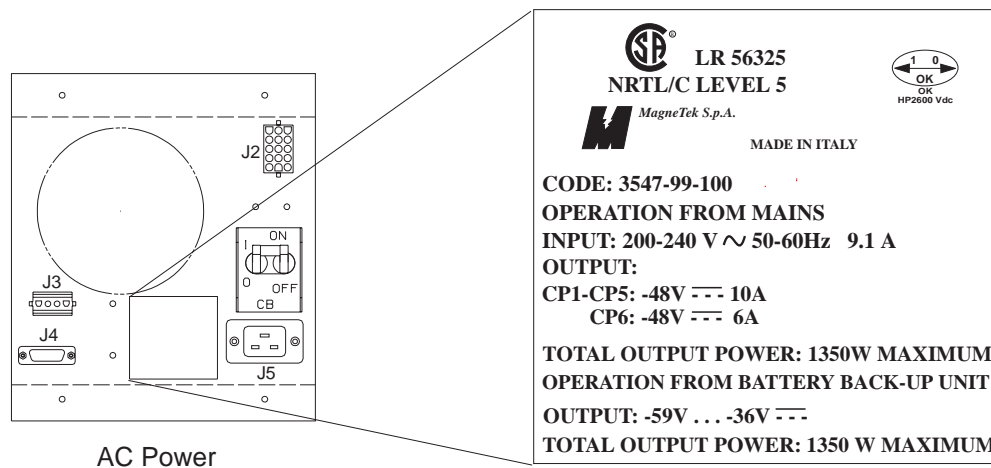

Figure 11-12. ac Power Rating Plate
- \_\_\_ 2. Check that the power rating plate data (see Figure 11-12) are consistent with the customer's available AC voltage and the frequency. The standard voltage input to the 2220 is single-phase, 200 to 240 volts 60 Hz, or 200 to 240 volts 50 Hz.